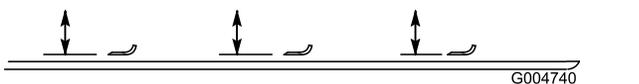

Figure 143
4. Rotate the blade until the ends face forward and backward, and measure from the inside of the mower deck to the cutting edge at the front of the blade (Figure 143).